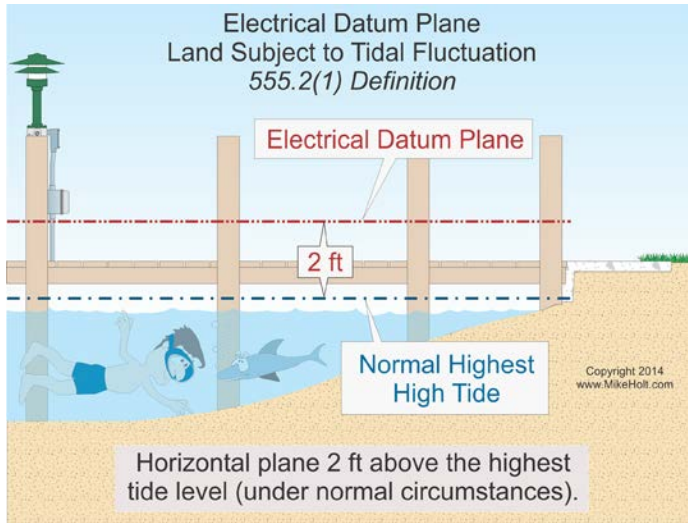

Figure 555-2
**(1) Land Area Subject to Tidal Fluctuation.** The horizontal plane 2 ft above the highest high tide that occurs under normal circumstances. Figure 555-2